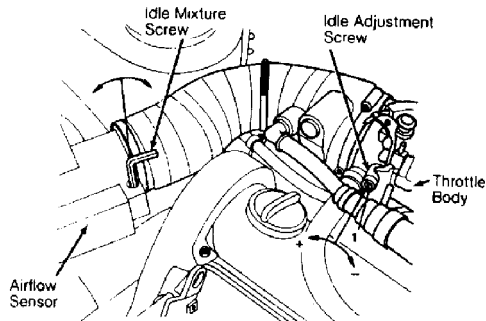

Fig. 4: Idle Mixture Screw & Idle Adjustment Screw (Vanagon)
5) With ignition off, disconnect idle stabilizer valve and oxygen sensor. Check idle speed. If necessary, turn idle speed screw until idle speed is correct. See Fig. 4. Check CO reading. If CO reading is within specifications, remove intake air sensor. Center punch plug in CO adjusting hole.